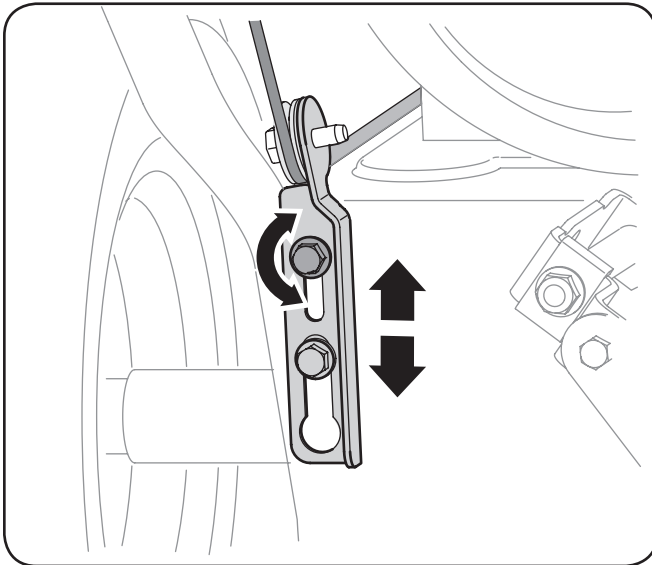

Figure 3-13
4. Allow the auger to remain engaged for approximately ten (10) seconds before releasing the auger control. Repeat this several times.
8. Position the bracket upward to provide more slack (or downward to increase cable tension). See Figure 3-13.